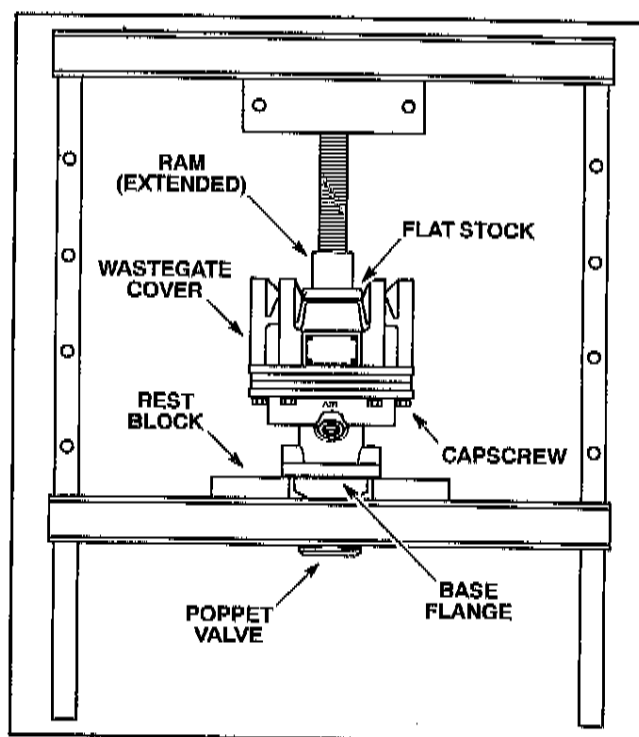

Figure 5.35-18. Wastegate Disassembly
2. Position wastegate in a suitable press. Use two rest blocks to properly support base flange (see Figure 5.35-18).